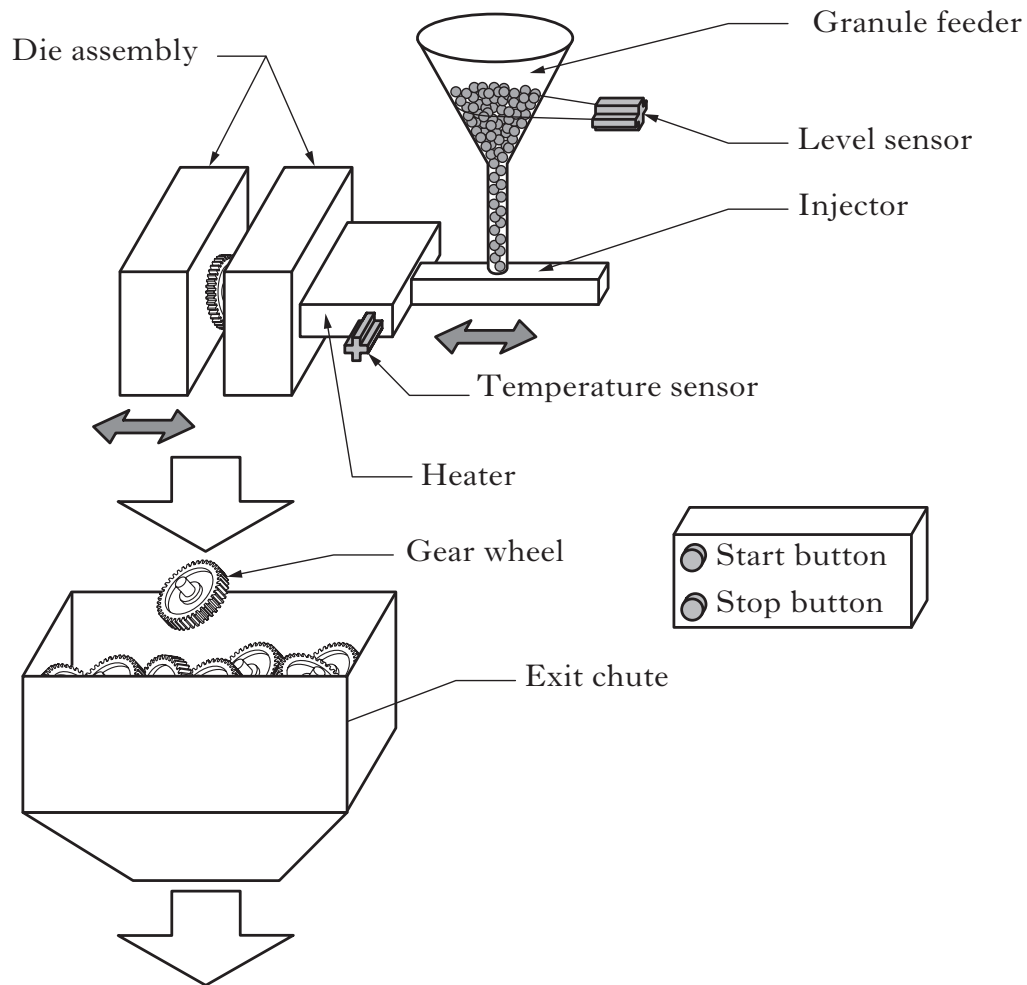

Figure Q13
13. Figure Q13 illustrates a Microcontroller controlled semi-automatic injection machine, which manufactures plastic gears. The Injector is pneumatically actuated and the Die assembly mechanism is hydraulically actuated.